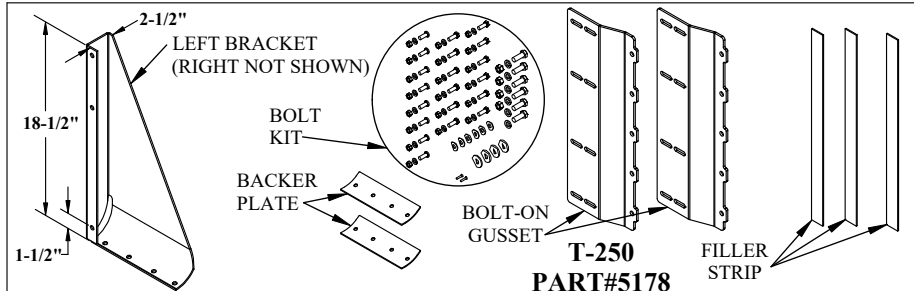

Figure 1: T-250 Part Identification.
2. Verify mounting bracket kit (Figures 1 and 2 and Tables 1 and 2).